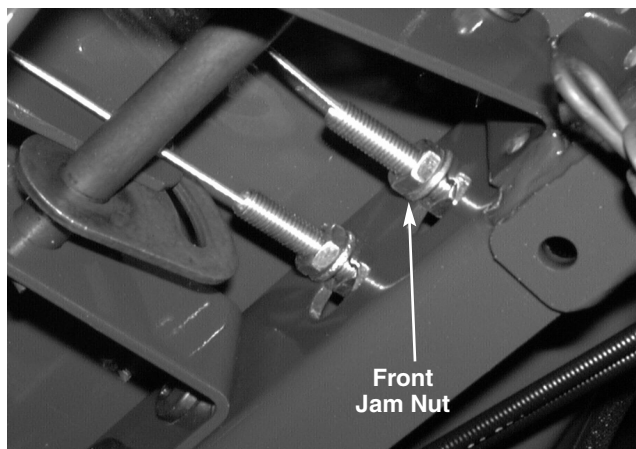

FIGURE 2.
- 6). By hand, tighten the front jam nut to the front of the front channel assembly. See figure 2.